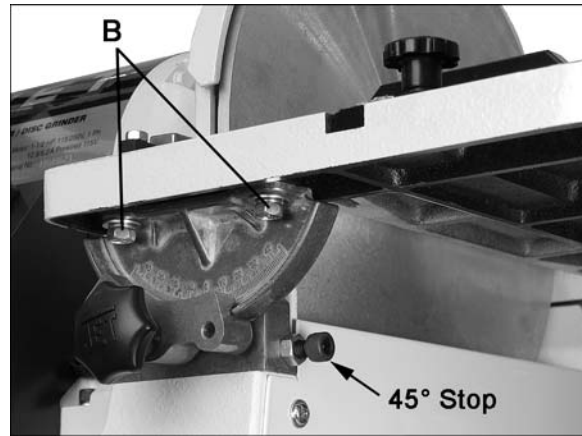

Figure 25
4. If table is not parallel, loosen the four screws holding the table to the trunnions (B, Figure 25) with a 12mm wrench, and nudge the table until parallel. Re-tighten screws.
6. To adjust the 45° stop, pivot the 90° stop block out of the way, and tilt the table down against the 45° stop screw (Figure 25). Check the angle with a 45° measuring device on the table and against the disc.